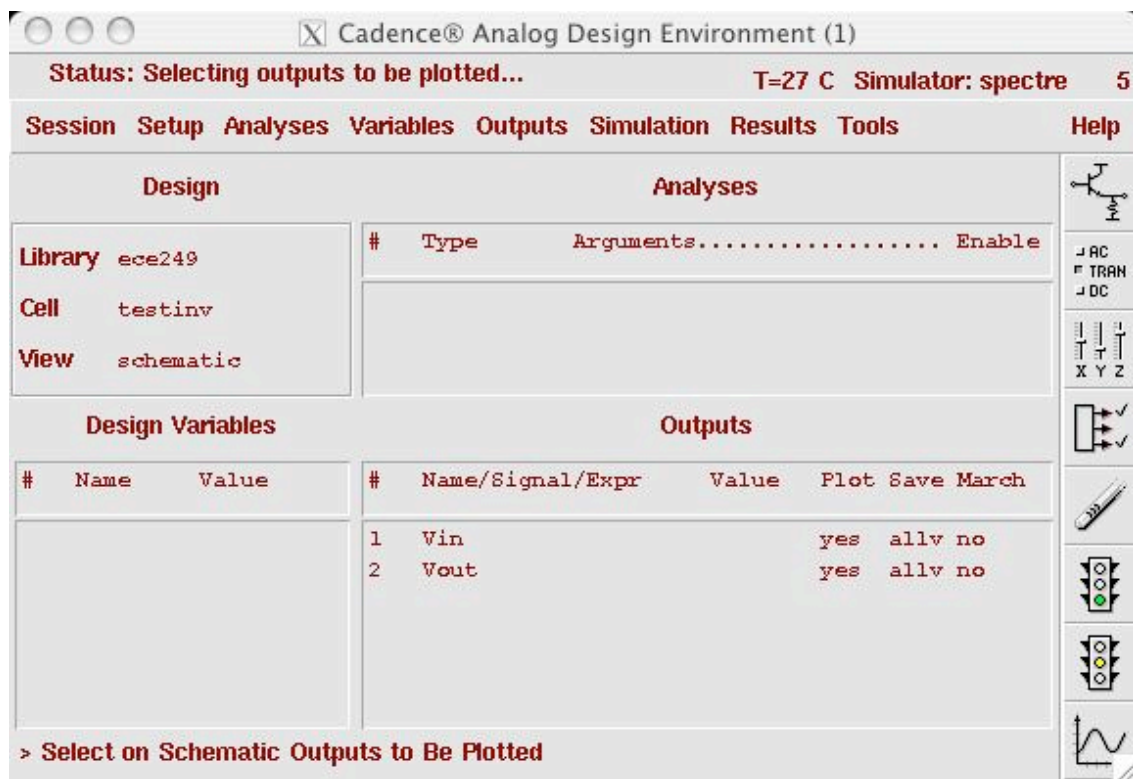

Fig. 20. Analog Circuit Design Environment ready for a simulation.
**Step 12:** In the *Analog Circuit Design Environment* window, go to *Outputs... → To be Plotted... → Select on Schematic*. Then go back to the *testinv* schematic window and select the **Vin** and **Vout** wires. Note, the wires should change color, and the signals should be added in the outputs window, as in Fig. 20.